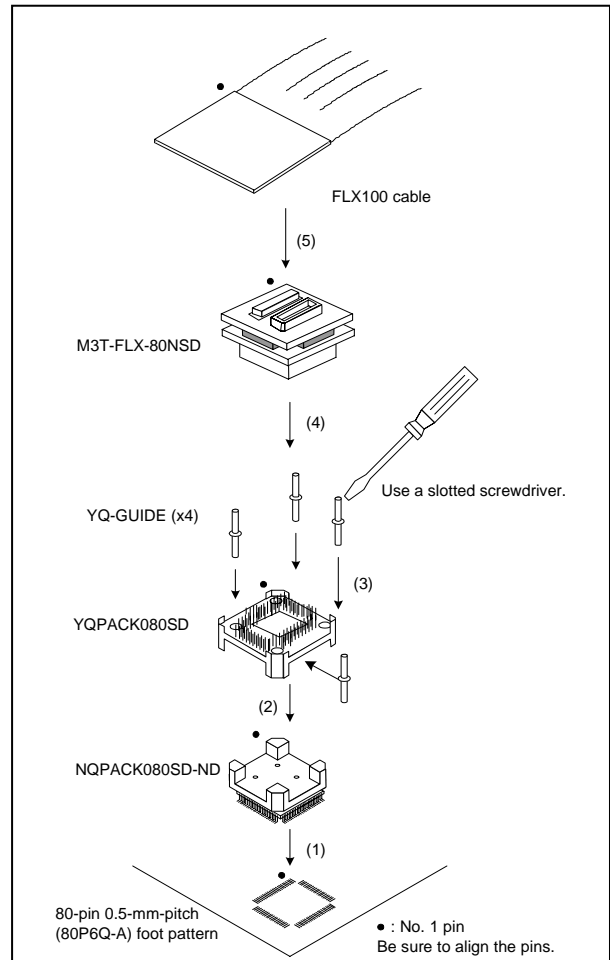

Figure 3 Connection procedure of the M3T-FLX-80NSD
5. Connection Procedure (See Figure 3)